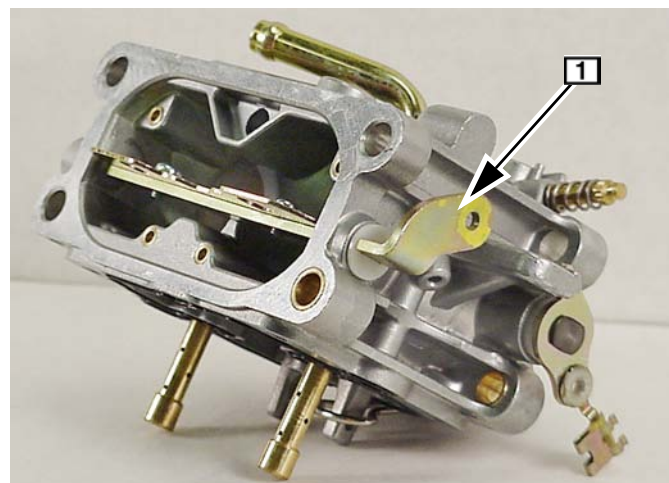

Fig. 131
5. Install choke shaft with new bushings, Fig. 131.